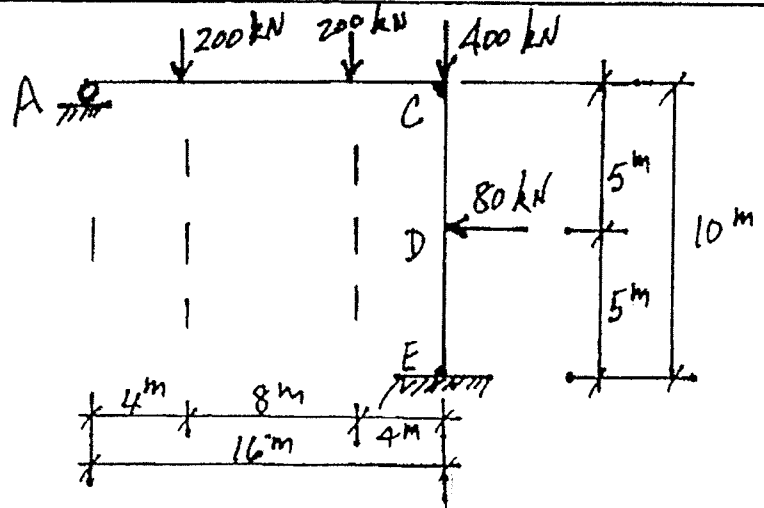

FIGURE 4
4. A rigid steel frame with a constant plastic moment capacity  $M_p$ , is shown loaded in Figure 4.
5. (a) Determine the size of the concrete footing at base E of the steel structure, Figure 4, using 300 kPa for the soil bearing capacity.
6. The rigid frame in Figure 4 is to be designed in reinforced concrete. Using the Limit States Design method:
7. Using the Limit States Design method, design a rectangular cross-section for the reinforced concrete column CE in Figure 4, carrying out the required strength and stability checks.